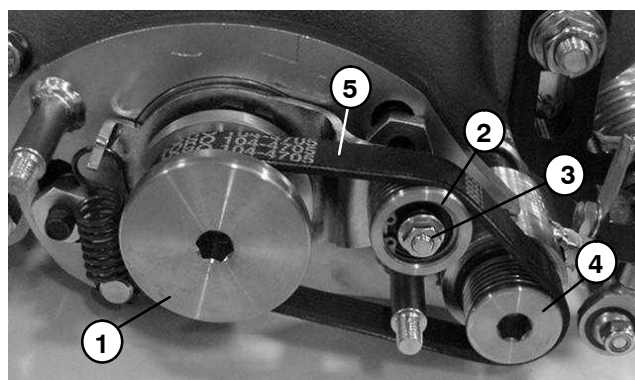

Figure 5
3. Pivot idler pulley by placing a 10mm wrench on pulley nut and rotating clockwise to relax belt tension. Slip groomer drive belt off pulleys. Release idler (Fig. 5).
4. Install new drive belt to drive pulley, idler pulley, and driven pulley observing correct belt routing (Fig. 5).